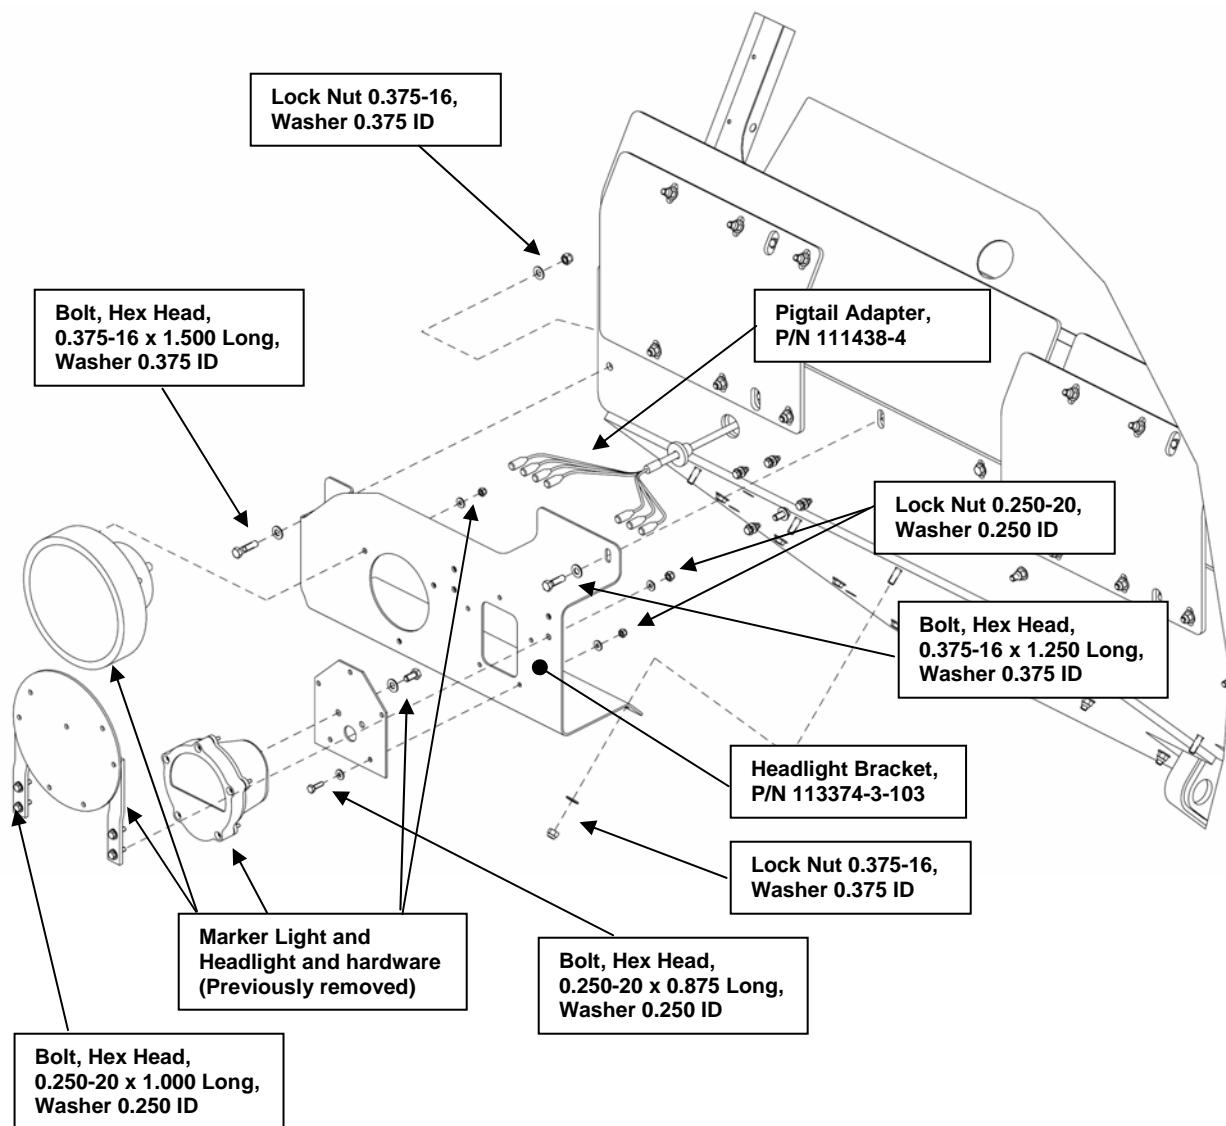

**Figure 52. Right Headlight Assembly installation (Configuration A).**
- o) In order to install the Headlight Assemblies, it is necessary to identify which type of Marker Light is used on the vehicle. Before being removed, the Marker Light was located just inboard of the Headlight. Inspect the Marker Light and determine whether an incandescent bulb (i.e., a common lamp bulb) is used inside the light. If an incandescent bulb is **NOT** found, use Configuration A as shown in Figure 51 and Figure 52, and install the Headlight Assemblies using Steps (p) through (z). If an incandescent bulb **IS** found, use Configuration B as shown in Figure 53 and Figure 54, and install using Steps (aa) through (mm).
- u) Attach the Headlight Bracket (P/N 113374-3-103) on the right side of the vehicle using the hardware shown in Figure 52.
- v) Route the Pigtail Adapter (P/N 111438-4) through the hole in the armor and cab as shown in Figure 52. Insert the rubber grommet into the hole located at the center of the Light Cover (P/N 113379-1-103) that was installed in Step (f). Connect the corresponding wire leads located inside the cab.
- w) Attach the Marker Light to the Headlight Bracket using the hardware shown in Figure 52.
- z) Attach the previously removed Weight Marker to the Headlight Bracket using the hardware shown in Figure 52.